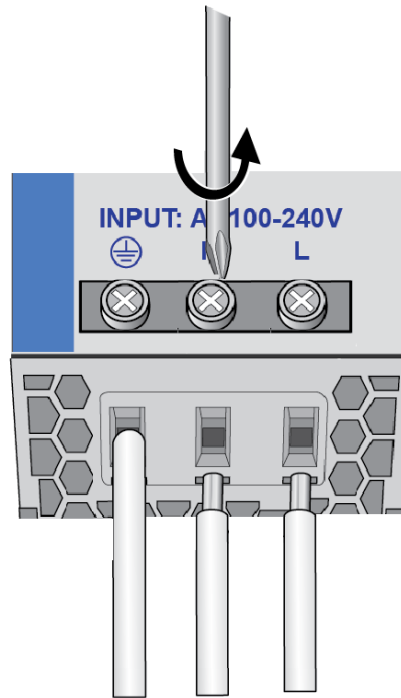

Figure 13. Installing the AC or DC Power Wires
2. Loosen the two N (Neutral) and L (Live) screws on the front panel of the power supply and insert the AC or DC power wires into the connectors on the bottom panel. Refer to Figure 13 on page 53.